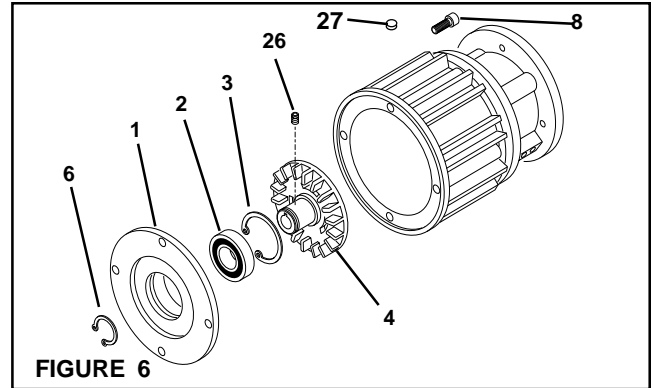

FIGURE 6
1. Remove the four Socket Head Cap Screws (Item 8) and slide the Female Pilot (Item 1), Bearing (Item 2), and the Drive Disc (Item 4) out of the FMCBES (See Figure 6).
If an Input Unit is installed on the FMCBES, it must be removed before servicing the FMCBES. Remove the Plug (Item 27) and loosen the Set Screw (Item 26) to release the FMCBES from the Input Unit shaft (See Figure 6).
2. Remove the Retaining Ring (Item 6) (See Figure 6).
3. Press the Drive Disc (Item 4) out of the Bearing (Item 2) and the Female Pilot (Item 1) (See Figure 6).
4. Remove the Retaining Ring (Item 3) (See Figure 6).
5. Fully supporting the Female Pilot (Item 1), press the old Bearing (Item 2) out of the Female Pilot (Item 1) (See Figure 6).
6. Clean the bearing bore of the Female Pilot (Item 1) with fresh safety solvent, making sure all old Loctite[®] residue is removed (See Figure 6).
7. Apply an adequate amount of Loctite[®] 680 to evenly coat the outer race of the new Bearing (Item 2) (See Figure 6).
8. Carefully align the outer race of the new Bearing (Item 2) with the bore of the Female Pilot (Item 1) (See Figure 6).
9. Supporting the Female Pilot (Item 1) and pressing on the outer race of the new Bearing (Item 2), press the new Bearing into the Female Pilot (See Figure 6).
10. Reinstall the Retaining Ring (Item 3) (See Figure 6).
11. Support the inner race of the new Bearing (Item 2) and press the Drive Disc (Item 4) into the new Bearing and Female Pilot (Item 1) (See Figure 6).
12. Reinstall the Retaining Ring (Item 6) (See Figure 6).
13. Apply a drop of Loctite[®] 242 to the threads of the Socket Head Cap Screws (Item 8) (See Figure 6).
14. Slide the Female Pilot (Item 1), Bearing (Item 2), and Drive Disc (Item 4) into the FMCBES and reinstall the four Socket Head Cap Screws (Item 8) (See Figure 6).